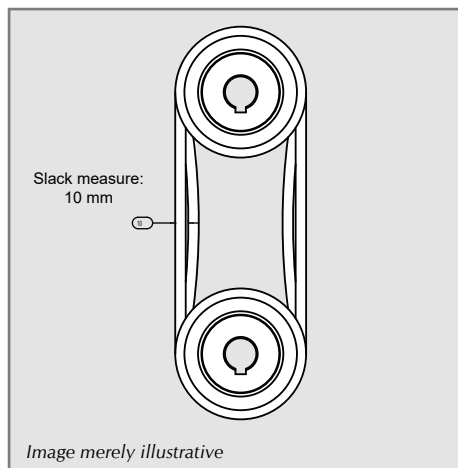
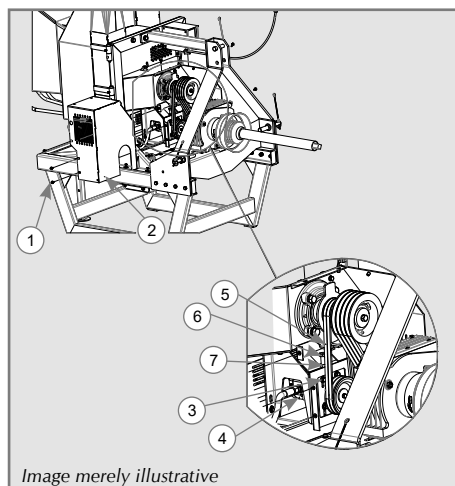

Figure 20
Figure 21
- ✓ Check the tension of the belt frequently. The belts should have a slack of around 10 mm, as per Figure 20.
- ✓ To have access to the disk belts, it is necessary to remove the belt protection (2), as per Figure 21.
1. Loosen the screws (1) that secure the belt protection (2);
2. Remove the belt protection (2);
3. Loosen the screws (3) of the hydraulic pump (4) just enough to move it and make the necessary adjustments or change the belts;
4. Use the hydraulic pump adjustment screw to help regulate the belt tension (Figure 20); loosening them, we will have the relief of the stress on the hydraulic pump belts; tightening the adjustment screw of the pump, we will reduce the slack of the belts;
5. After making the necessary adjustment to the belts, tighten the fixing screws (3) of the hydraulic pump (4);
6. Tighten the nut of the adjustment screw of the hydraulic pump (4);